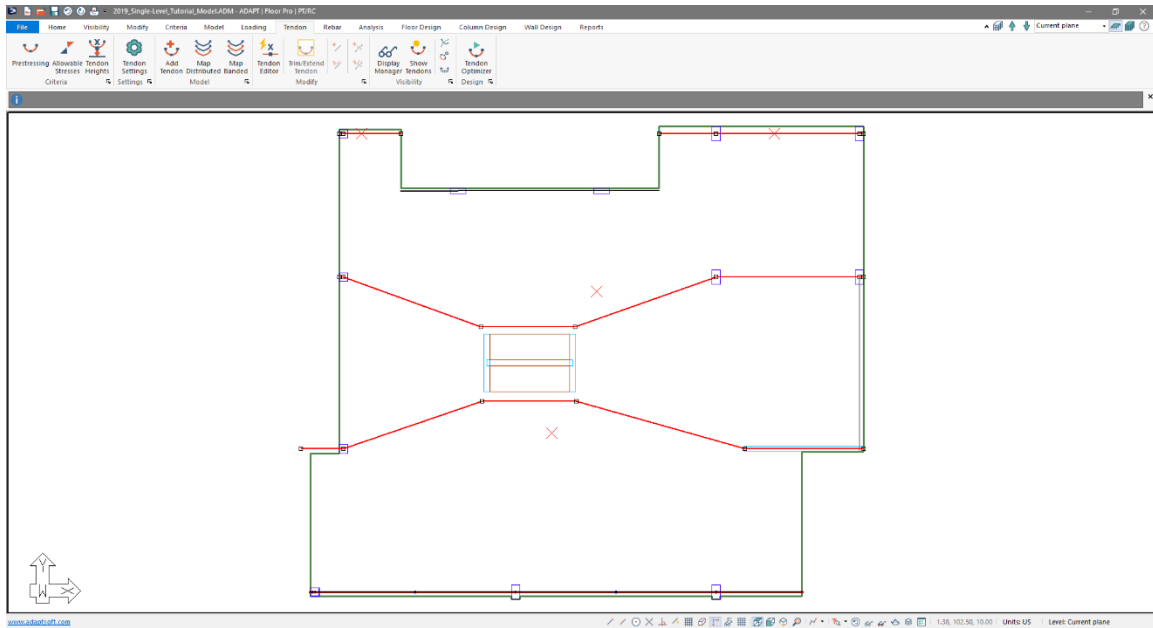

Figure 8-13
- Select the four support lines, shown selected in **FIGURE 8-13**, by left-clicking on the first support line to select, then holding the **CTRL** key on your key board and click on the other support lines to be selected.